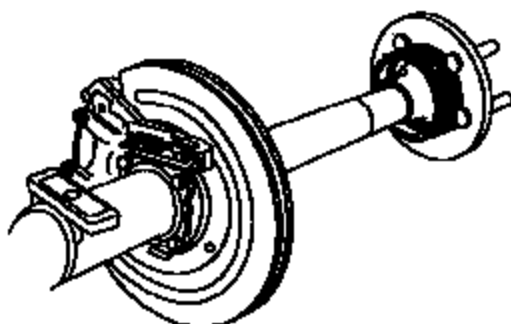

FIGURE 9
10. Remove the axle shaft (refer to Figure 9).